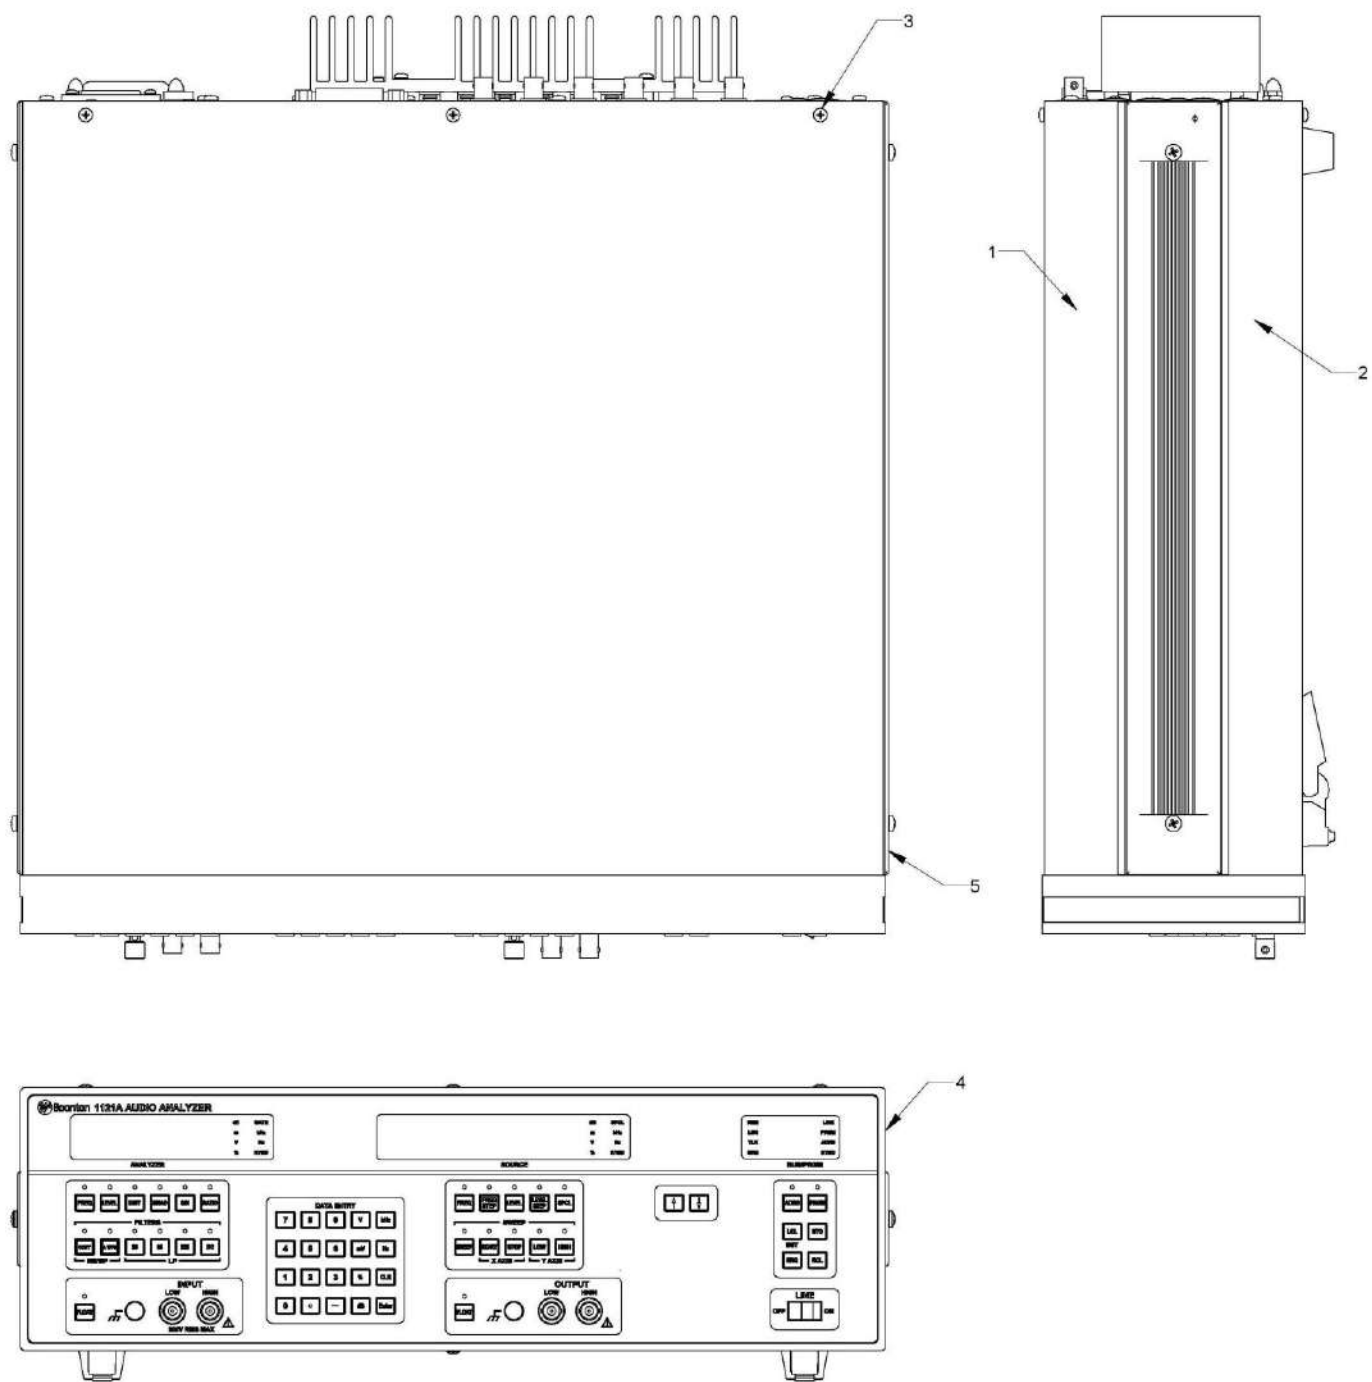

Figure 6-1. Model 1121A Programmable Audio Analyzer
**PROGRAMMABLE AUDIO ANALYZER (Figure 6-1)**